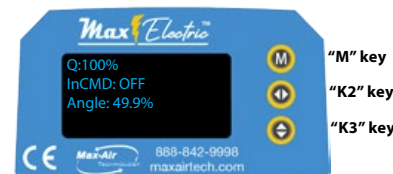

Fig. 2
2. When the unit is powered up, the display will provide stored energy remaining if the unit is a super-cap model, and dynamic data on the actuator positioning (Fig 2). Note that the actuator may not fully reach 0.0% or 100.0% depending on pre-programmed limits and how the actuator was mated to the valve.